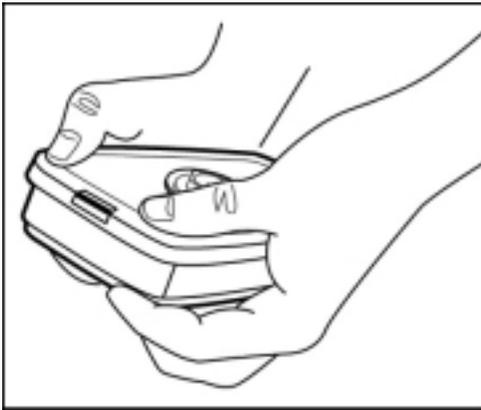

Fig. 6
2. Engage back snap by squeezing back side of cartridge and adapter together using the same hand positions. An audible click should be heard as each snap is engaged. (Fig. 6) **The 3M adapter assembly 502 should not be removed or reused once engaged. It is not designed for reuse. Removal or reuse may result in leakage, over exposure, sickness or death.**